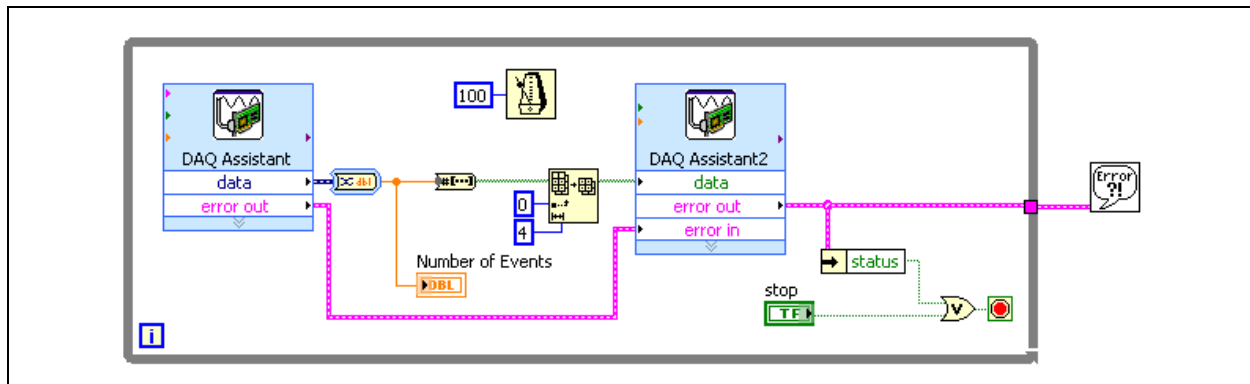

Figure 8-12. Digital Count VI Block Diagram
- Wire as shown in Figure 8-12.
10. Wire the block diagram as shown in Figure 8-12.